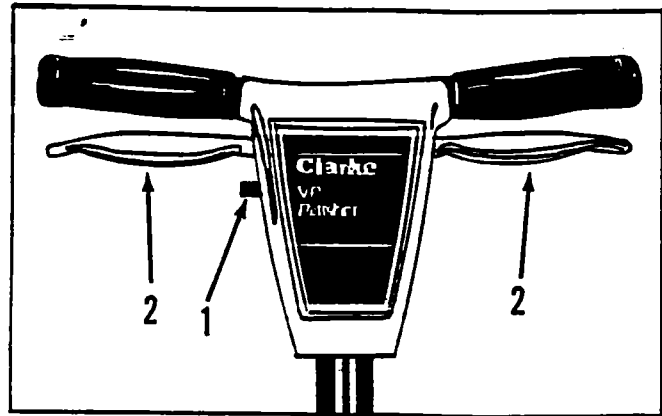

Figure 7
The switch to start and stop the machine is activated by the interlock switch (1) and the levers (2) under the handle grips. See figure 7.